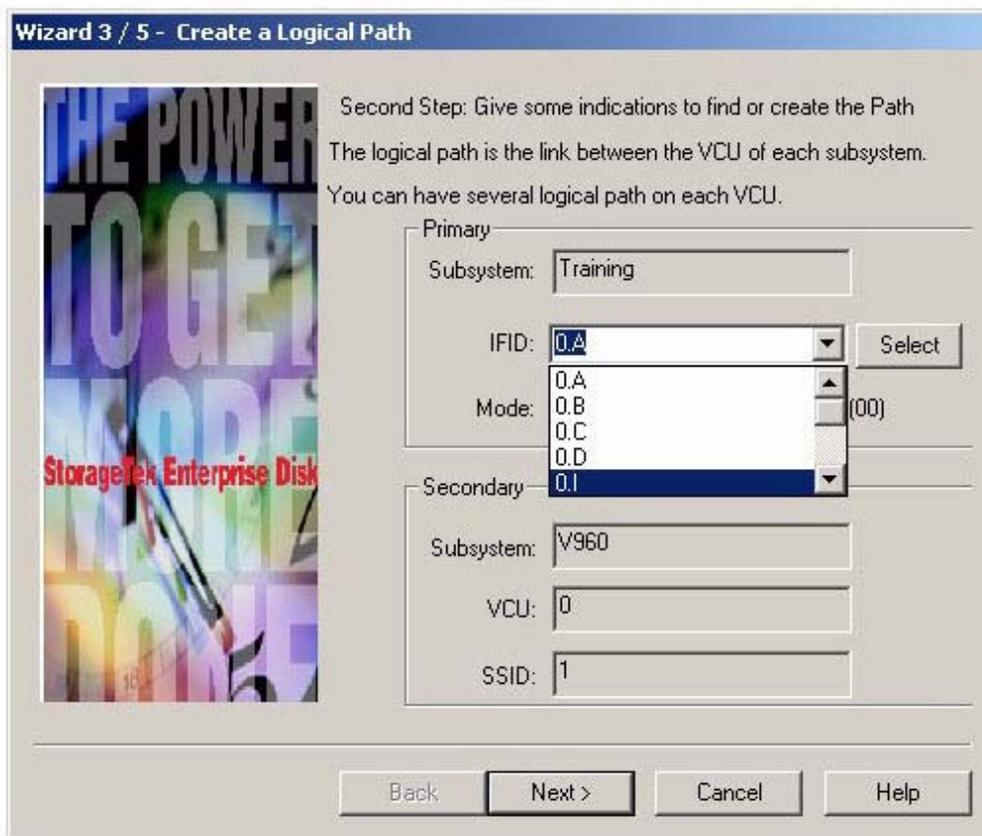

Figure 17 Interface Configuration Selection
7. The dialogue box of Figure 17 appears. Select the IFID path with the interface cables being dedicated to PPRC operation in the primary